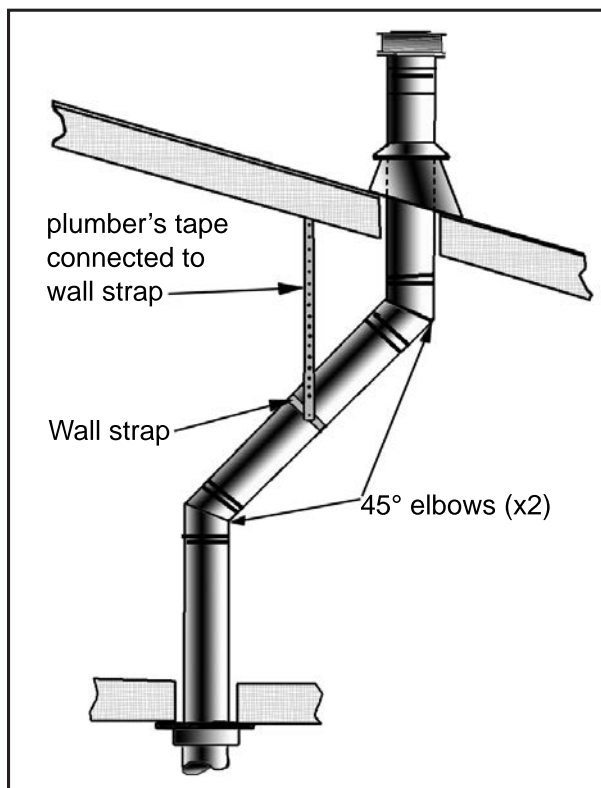

Figure 37: Use of Wall Straps.
- (a) If an offset is necessary in the attic to avoid obstructions, it is important to support the vent pipe every 3 feet (91 cm), to avoid excessive stress on the elbows, and possible separation. Wall straps are available for this purpose (see Figure 37).